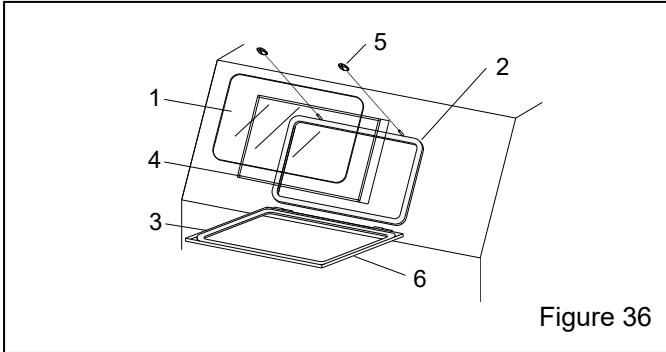

Figure 36
9.5 View-Window Assembly – Figure 36